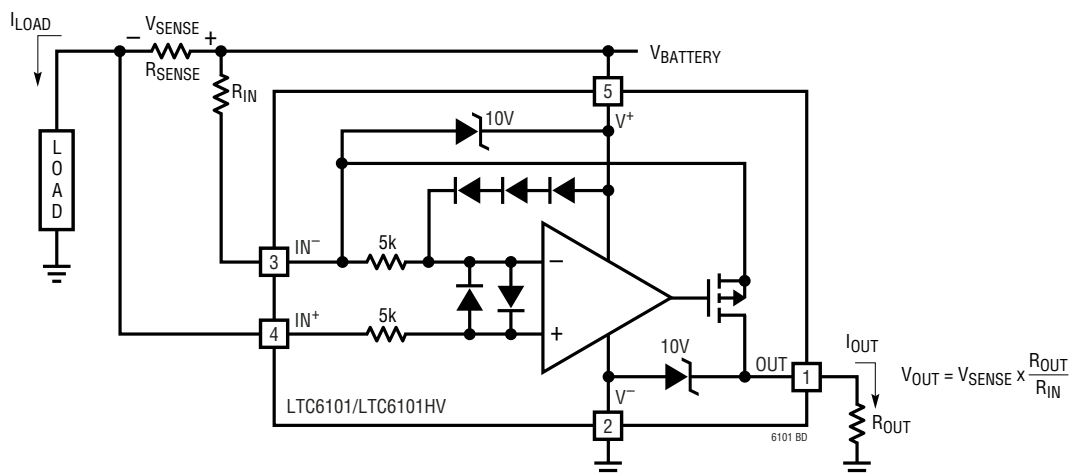

Figure 1. LTC6101/LTC6101HV Block Diagram and Typical Connection
**IN- (Pin 3):** The internal sense amplifier will drive IN- (Pin 3) to the same potential as IN+ (Pin 4). A resistor ( $R_{IN}$ ) tied from V+ to IN- sets the output current  $I_{OUT} = V_{SENSE}/R_{IN}$ .  $V_{SENSE}$  is the voltage developed across the external  $R_{SENSE}$  (Figure 1).
The LTC6101 high side current sense amplifier (Figure 1) provides accurate monitoring of current through a user-selected sense resistor. The sense voltage is amplified by a user-selected gain and level shifted from the positive power supply to a ground-referred output. The output signal is analog and may be used as is or processed with an output filter.